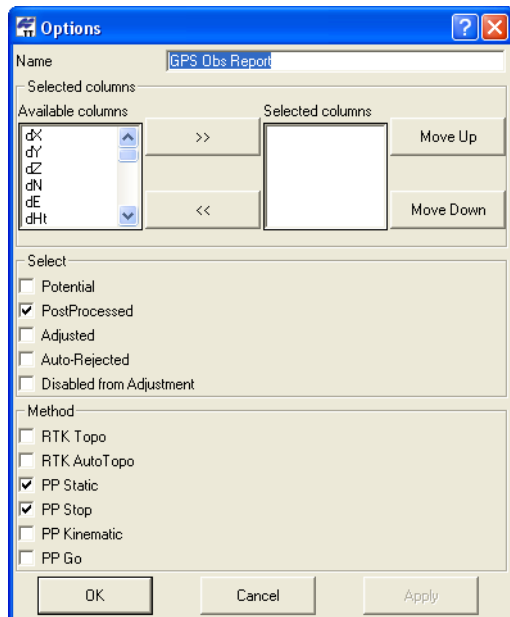

Figure 7-33. Item Options – GPS Obs Report
- GPS Obs Report – edit the name, select parameters to include or exclude using the move right/move left buttons, order the display of parameters using the Move Up/Move Down buttons, select the type of points to apply the parameters to, select the method used for points to apply parameters to, and click **OK** (Figure 7-33 on page 7-22).